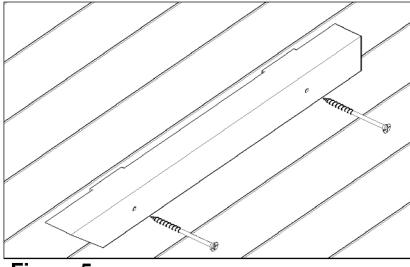

Figure 5
- The outer sides of the supports have 3 mm higher details to guarantee ventilation between the wall and sauna bench module. (Figure 5)